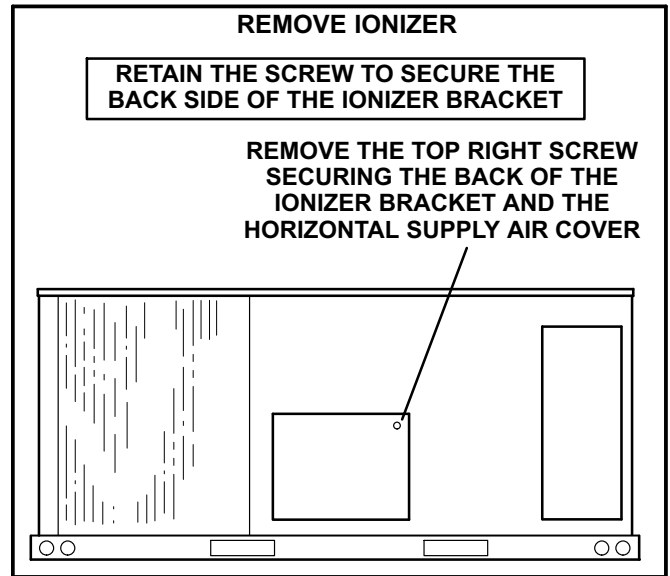

FIGURE 30
- 1- On the back side of the unit, remove the screw securing the back of the ionizer bracket. See figure 30. Retain the screw to secure the back side of the ionizer bracket.